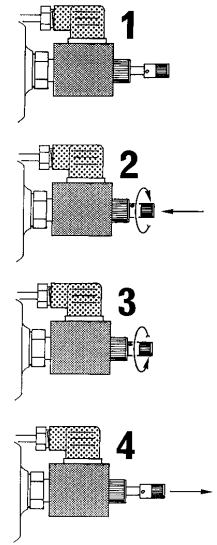

fig. 10b
Only in these conditions it is permitted to remove the lead seals which protects the device. Push the button and turn it into the clockwise sense (fig. 10b pos. 1-2); the button stays in stable and closed position.
(!) **When the electric power is reestablished, remember to put the button in its original position, turning it into the anti-clockwise sense. (Fig. 10b pos. 3-4)**